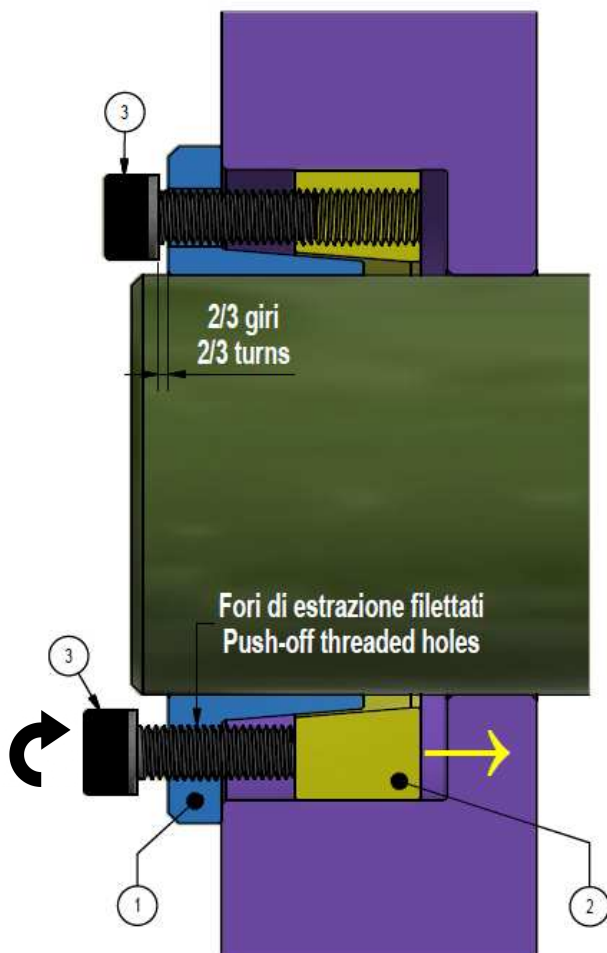

Fig. 4. Release of outer ring.
** Progressively tighten these screws in a crosswise pattern, using approx. ¼ turns for several passes until the outer ring is released (fig. 4). Start with a screw located at 90° approx. respect to slit; screws adjacent to slit shall be tightened in a row.**